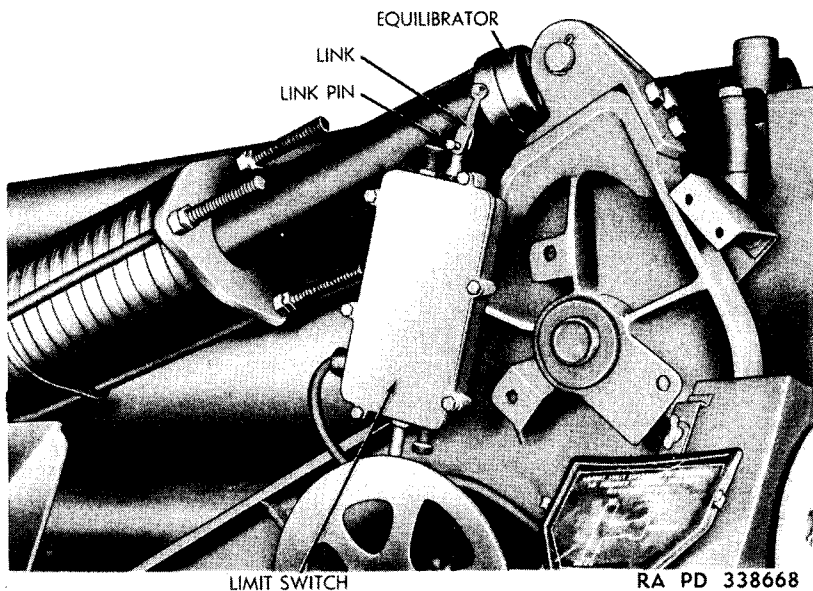

Figure 77. Elevating limit switch (M41).
d. DISCONNECT LIMIT SWITCH. Disconnect the limit switch from the equilibrator by removing the cotter pin and drawing the pin from the link (fig. 77).
d. **LIMIT SWITCH.** Attach the limit switch to the left equilibrator by installing the pin through the clevis of the connecting link. Secure with a cotter pin (fig. 77).